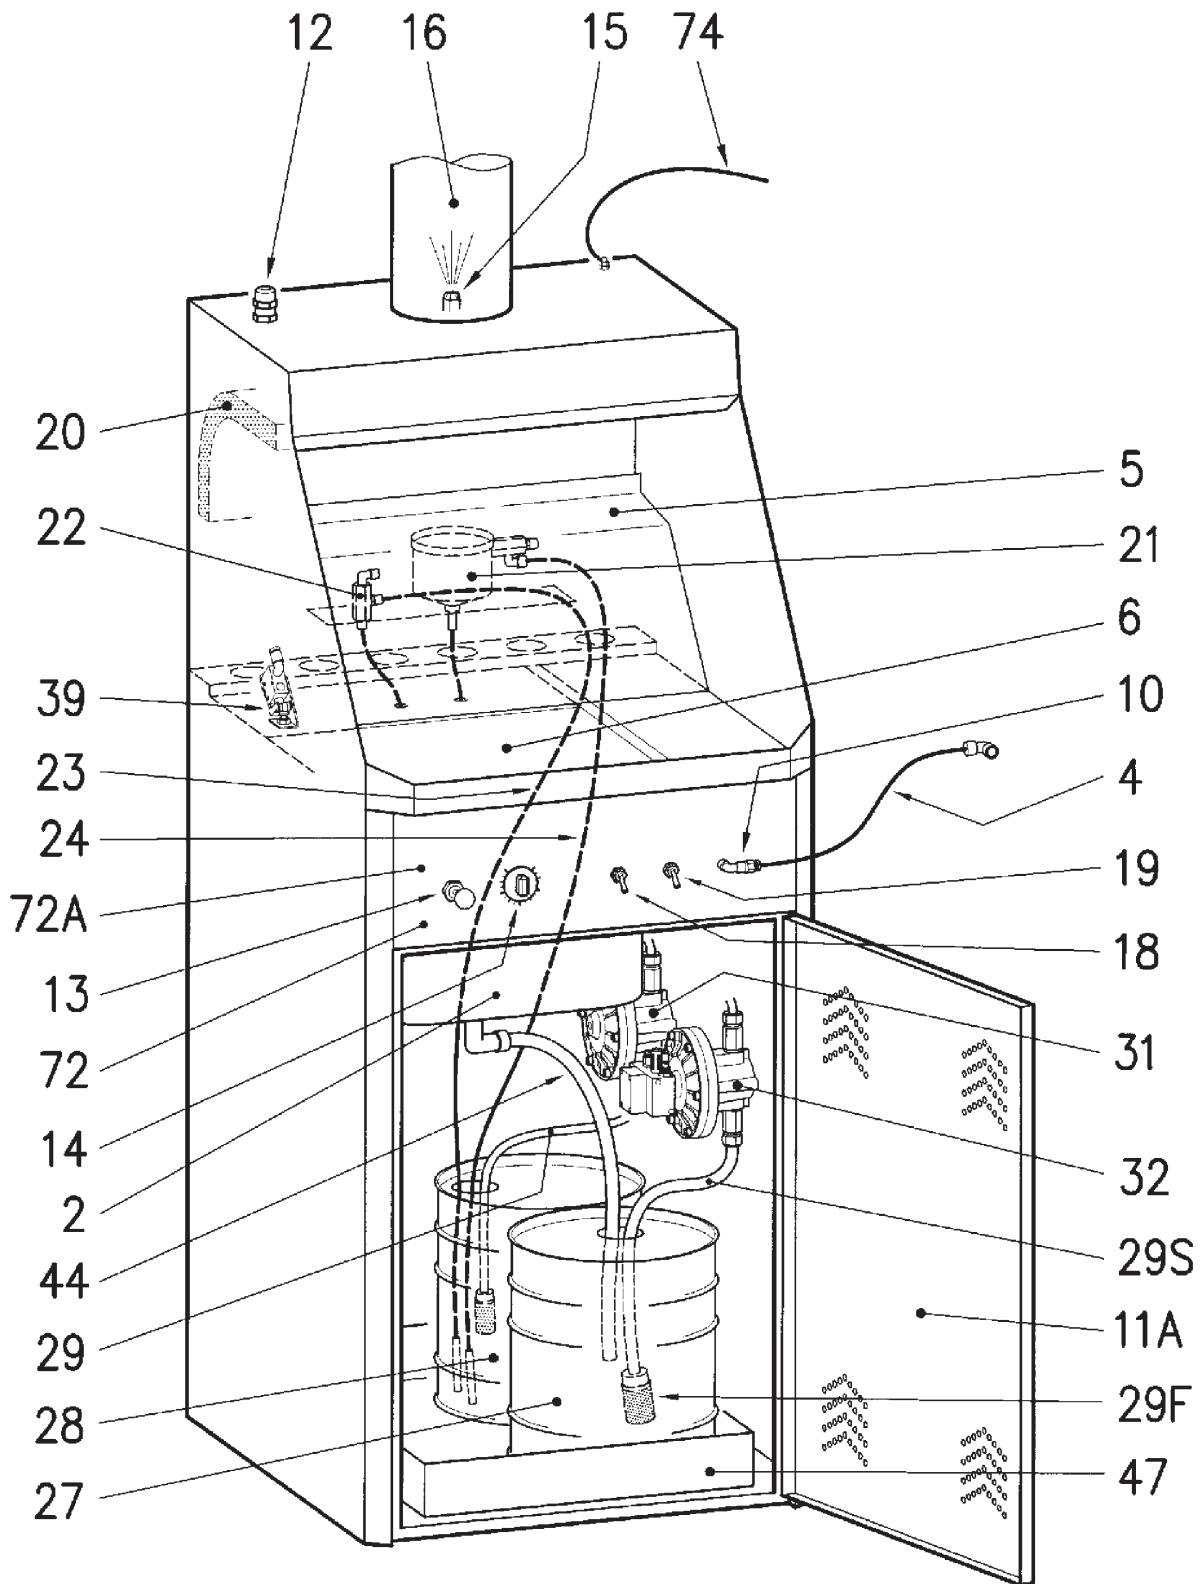

Figure 1
- A steel structure (see figure 1).
- A stainless steel washing machine (pos.2 fig.1), with a door (pos.6 fig.1).
- A pneumatic pump (pos.32 fig.1) that sucks the dirty detergent from the drum (pos.27 fig.1) and is controlled by a timer (pos.14 fig.1).
- A pneumatic pump (pos.31 fig.1) that sucks the clean detergent from the drum (pos.28 fig.1) and is controlled by a push button (pos.13 fig.1).
- A nebulizer (pos.22 fig.1) that sucks the clean detergent from the drum (pos.28 fig.1) and is controlled by a valve (pos.18 fig.1).
- A Venturi pump (pos.21 fig.1) that sucks the clean detergent from the drum (pos.28 fig.1) and is controlled by a valve (pos.19 fig.1).
Solvent fumes and vapours sprayed into the air inside the working area conveyed and sucked automatically each time the operator opens the door (pos.6 fig.1) of the washer (pos.2 fig.1), and discharged outside thanks to the Venturi effect generated by the nozzle (pos.15 fig.1) inside the hose (pos. 16 fig. 1). An active carbon purifier (optional) can be installed on this vapour discharge hose to dampen the polluted gaseous particles.
Description of the Spray-gun washer (See fig. 1):